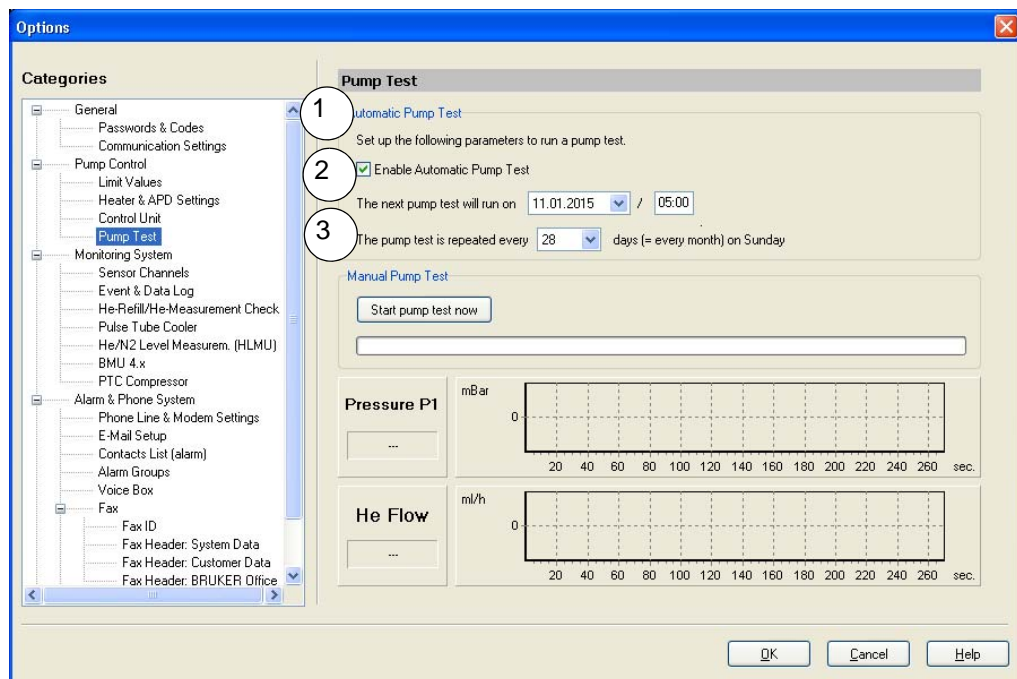

Figure 8.19: Tools - Options - Control Unit - Pump Test - Configuration
3. Check the „Enable Automatic Pump Test“ checkbox (Figure 8.19: 1).
4. Select the date and time for the next test (Figure 8.19: 2).
5. Select the interval for the test (Figure 8.19: 3). A pump test once a month (every 4 weeks) is recommended.